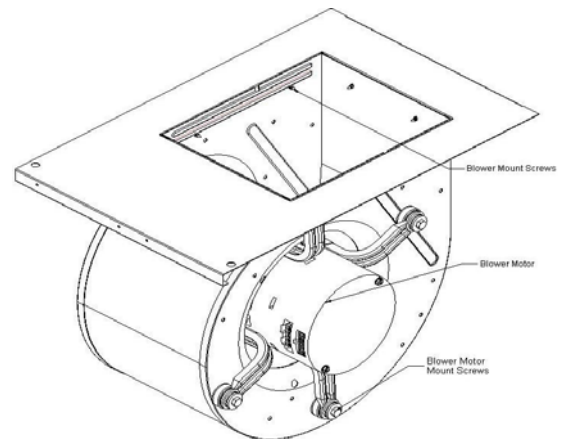

Figure 8: Blower Assembly and Mounting Screw Location
5. Remove the two screws on the left and right side and the center screw on the bracket in front of the blower mounting plate and slide the blower out. Refer to Figure 8.